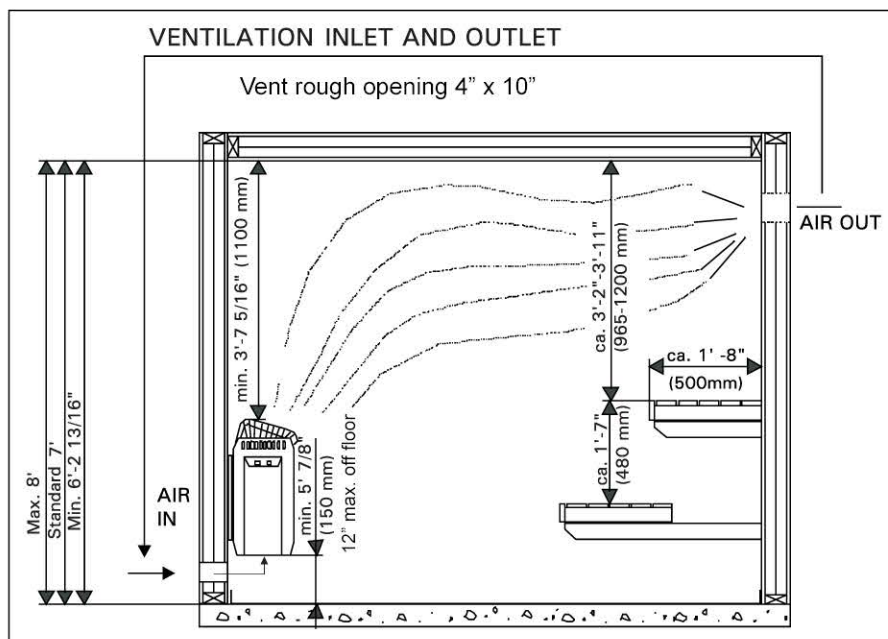

Figure 4. Sauna room
When aiming at a reasonable heater output, it may be advisable to lower the ceiling of the sauna (normally 7'). See figure 4. As a result, the volume of the sauna is decreased, and a smaller heater output may be sufficient. The ceiling can be lowered so that the ceiling joists are fixed at a suitable height. The spaces between the joists are insulated (minimum insulation 3 1/2") and surfaced as described above.
CEILING HEIGHT	See figure 4.
Outlet ventilation openings shall be located at the top of the wall, as close to the ceiling as possible, and shall comply with the minimum size requirements for inlet ventilations openings. See fig. 4.
Table 1. Installation details of a KV heater. See fig. 4 and item 2.3. "Heater output"
- NOTE! There should be a support, e.g. a board, behind the panel, so that the fastening screws can be screwed into a thicker wooden material than the panel. If there are no boards behind the panel, the boards can also be fastened on the panel. See figure 4.**